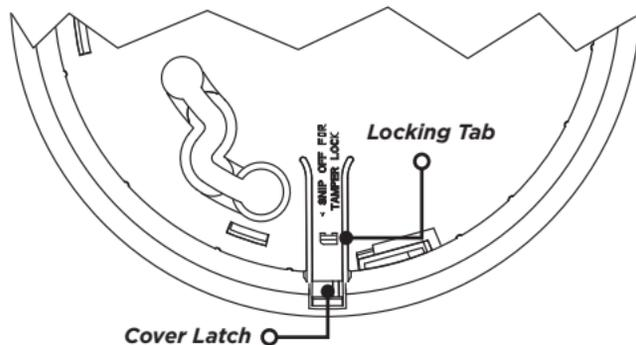

Figure 4: Mounting Base and Tamper Switch
1. Identify the small plastic tab that's located on the mounting base. See Figure 4.